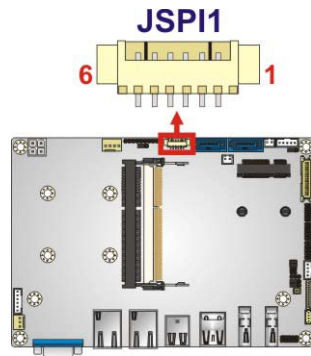

Figure 4-19: SPI Flash Connector Location
- CN Location: See **Figure 4-19**